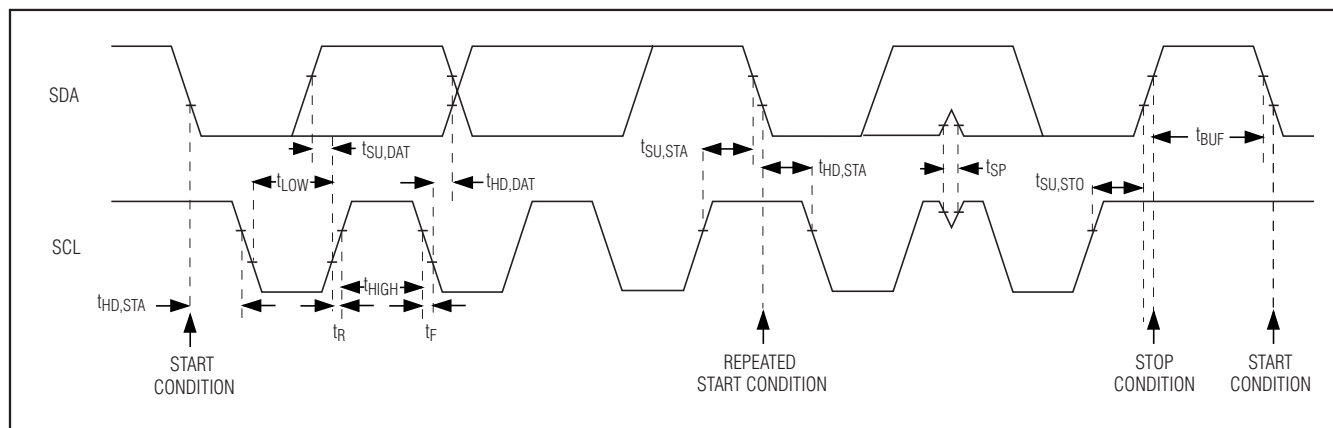

Figure 4. I²C Serial-Interface Timing Diagram
The MAX9665/MAX9666/MAX9667 feature an I²C/SMBus™-compatible, 2-wire serial interface consisting of a serial-data line (SDA) and a serial-clock line (SCL). SDA and SCL facilitate communication between the devices and the master at clock rates up to 400kHz. Figure 4 shows the 2-wire interface timing diagram. The master generates SCL and initiates data transfer on the bus. A master device writes data to the devices by transmitting the proper slave address followed by the register address and then the data word. Each transmit sequence is framed by a START (S) or REPEATED START (Sr) condition and a STOP (P) condition. Each word transmitted to the MAX9665/MAX9666/MAX9667 is 8 bits long and followed by an acknowledge clock pulse. A master reading data from the devices transmits the proper slave address followed by a series of nine SCL pulses. The devices transmit data on SDA in sync with the master-generated SCL pulses. The master